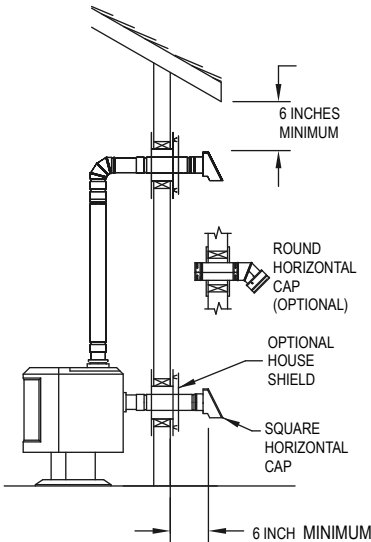

Figure 6
5. If the flue exit is on back of the stove, and a horizontal through-the-wall installation is desired (**Figure 6**):
B. Connect the Pipe Adapter to back of stove and attach sufficient pipe to penetrate Wall Thimble and extend at least 6" beyond the exterior wall. You may install the optional House Shield as shown in **Figure 6**. The House Shield is used to protect